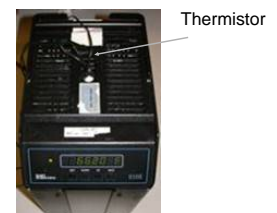

Fig. 4 Temperature Chamber
- Measured the voltage reading for range 10 – 40 °C with interval 1°C. A temperature chamber was used to set the temperature (Fig. 4).